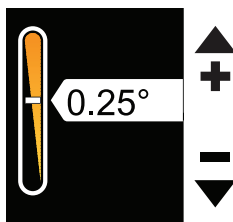

Figure 19 – Set custom warming rate
2. If you select Set Custom, tap the Increase and Decrease buttons to set the rate (Figure 19).